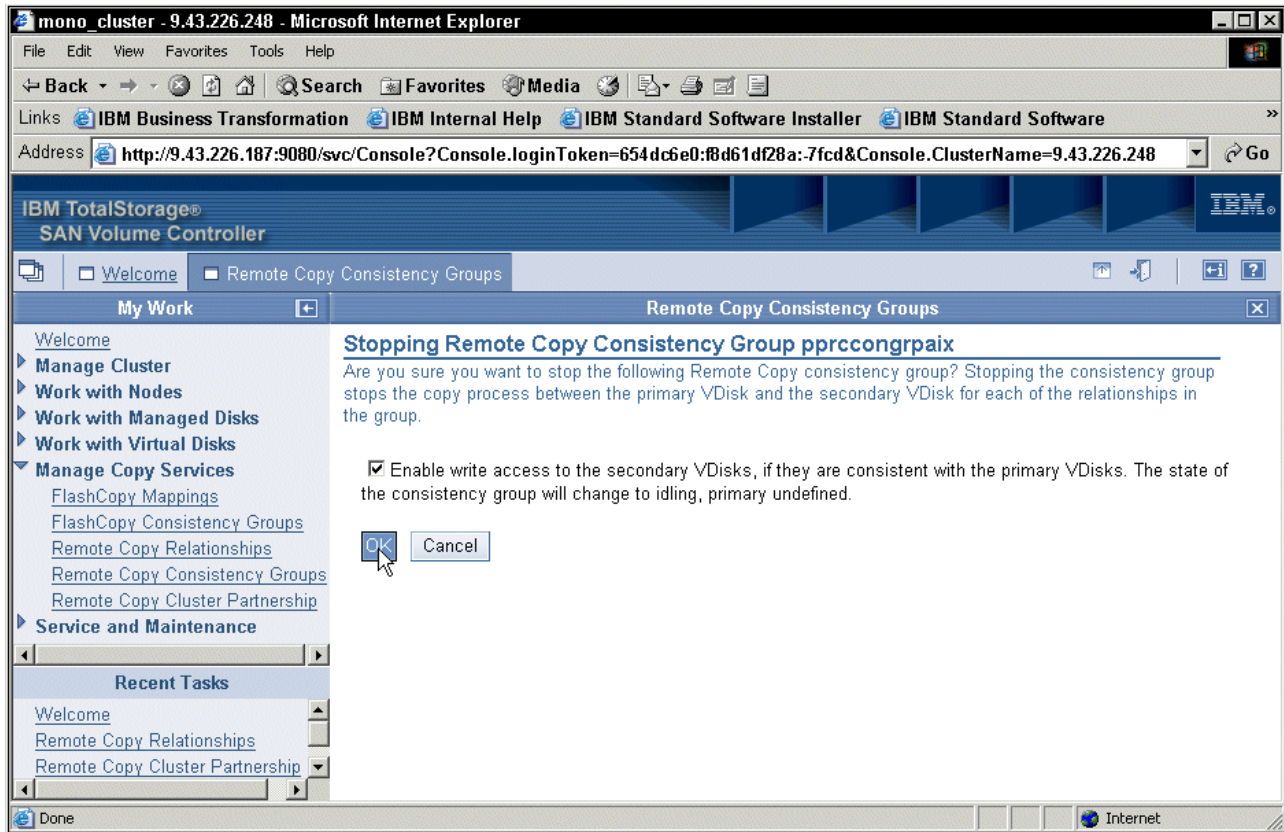

Figure 11-36 Stopping Remote Copy Consistency Group pprccongrpaix
4. On the Stopping Remote Copy Consistency Group pprccongrpaix panel (Figure 11-36), we select the **Enable write to the secondary vDisks...** option and click **OK**.